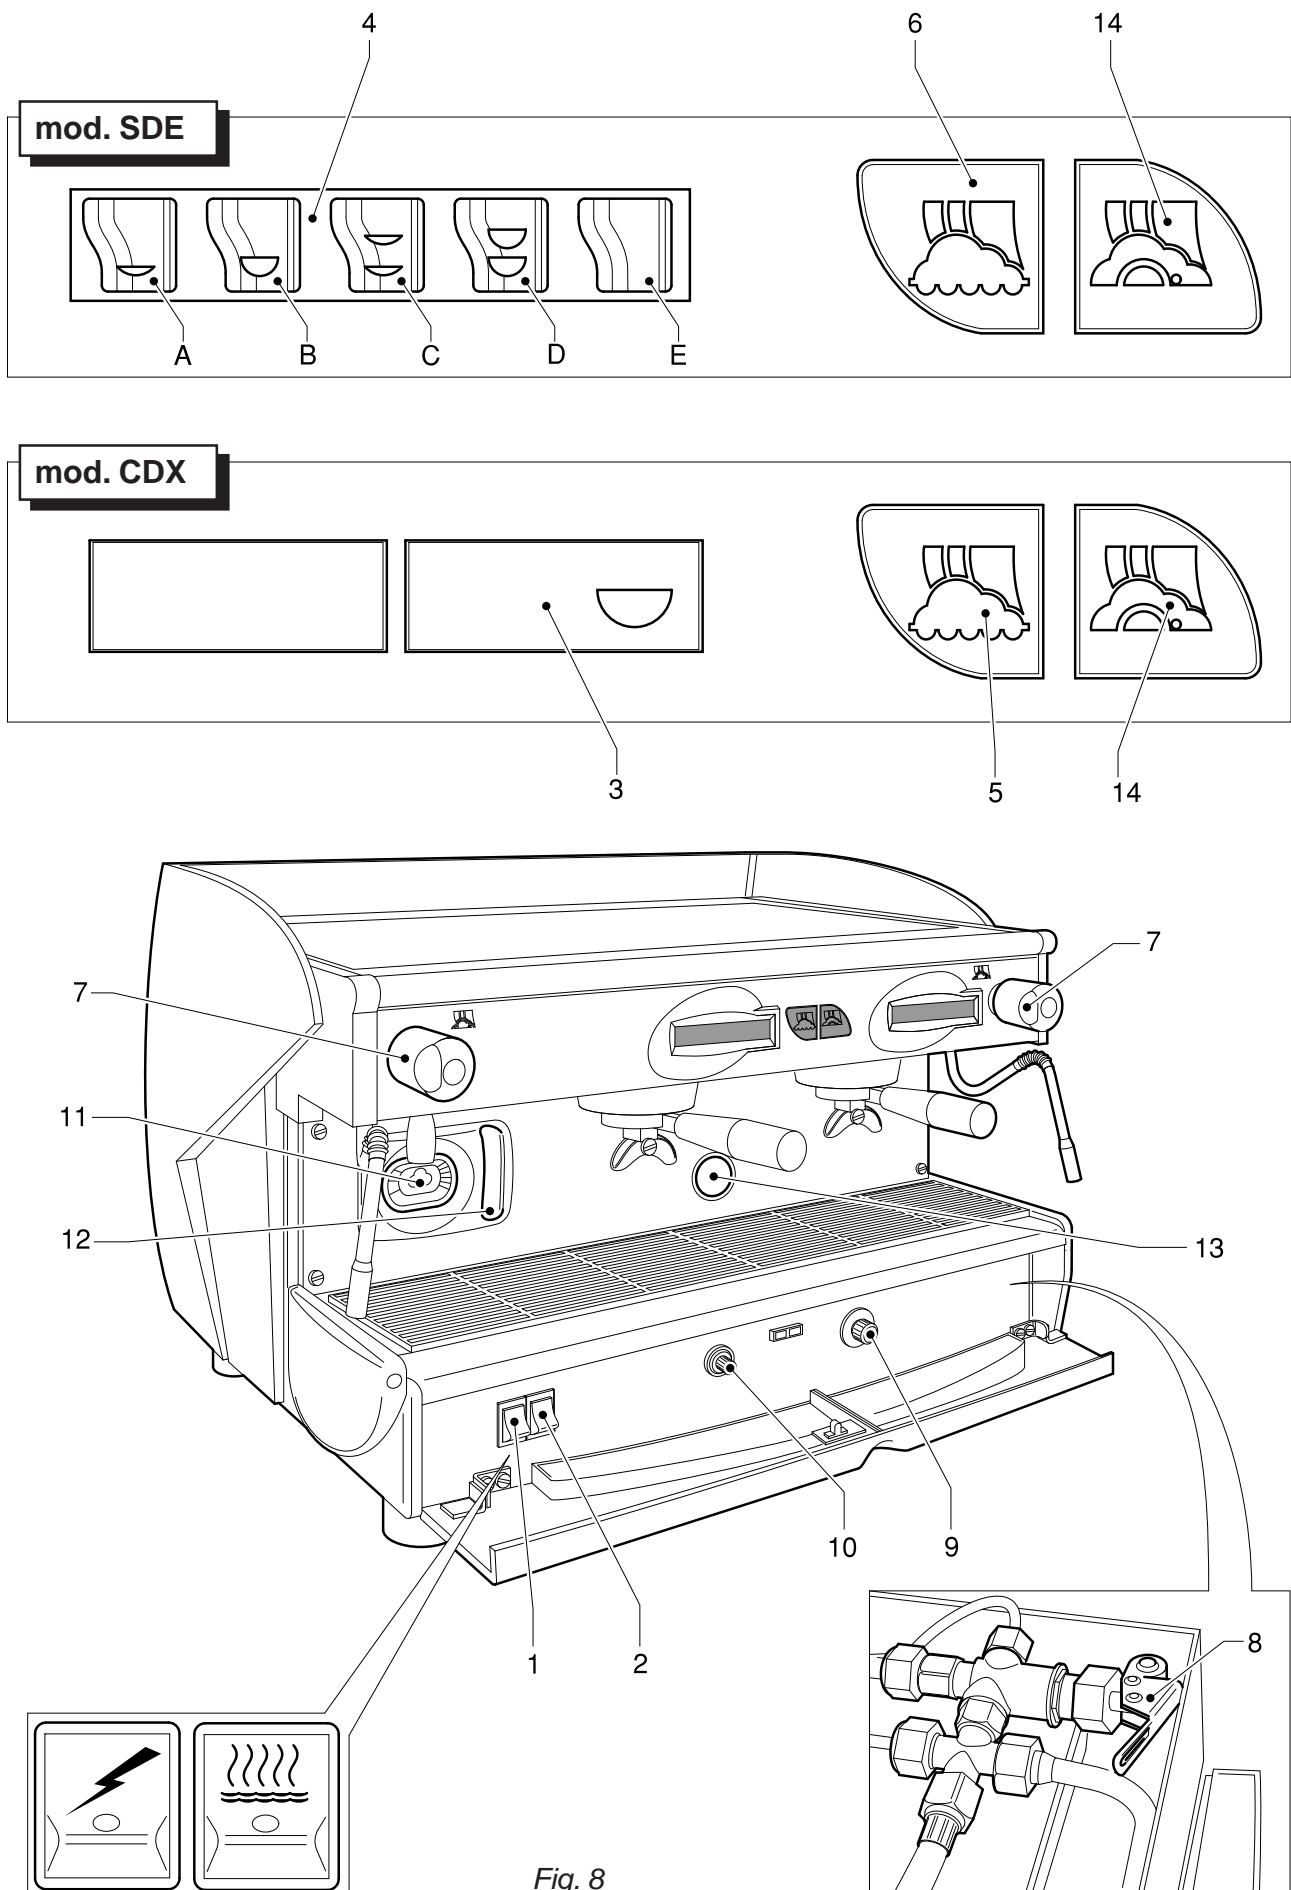

Fig. 8
### 7.1. Controls Fig.8
## 7.2. Control instruments (Fig.8)
### Models with gas (Fig.8)
- Place the cups under the spouts and start pouring using control 3 or button panel 4 according to model (Fig.8).
- Gradually turn on the steam tap 7 Fig.8; the steam that bursts in the liquid heats it to the desired temperature.
- Place the jug under the hot water spout and use the delivery control according to the model (Fig.8). When the desired quantity has been obtained, turn off the switch.
- Hold down the delivery control 4-E Fig.8 for at least four seconds then release the button; the machine continuously delivers water.